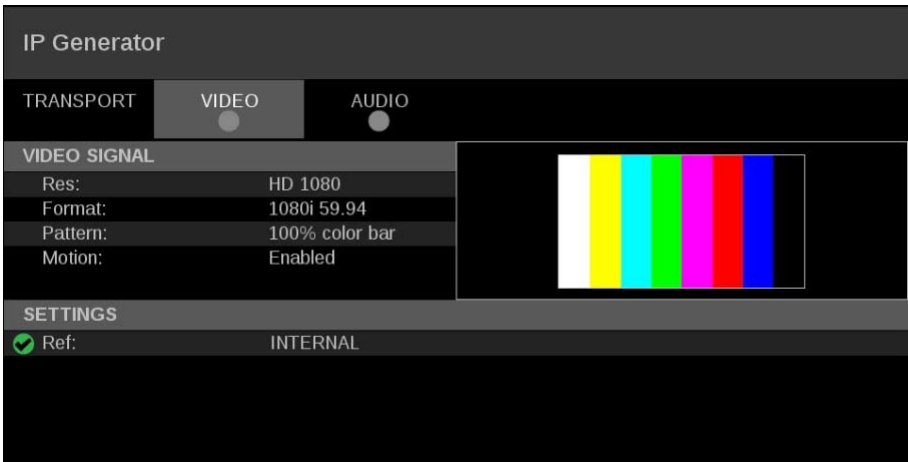

Figure 178: IP Generator application – VIDEO tab display
**VIDEO tab display.** Use this tab to view the settings of the generated video stream. (See Figure 178.)